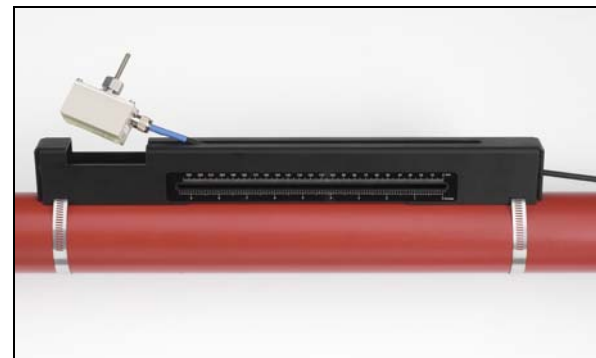

Figure 2.8
3. Thread the downstream transducer cable (blue) through the right-hand end of the guide rail and up through the rectangular opening at the top left-hand end of the guide rail, as shown in Figure 2.8.